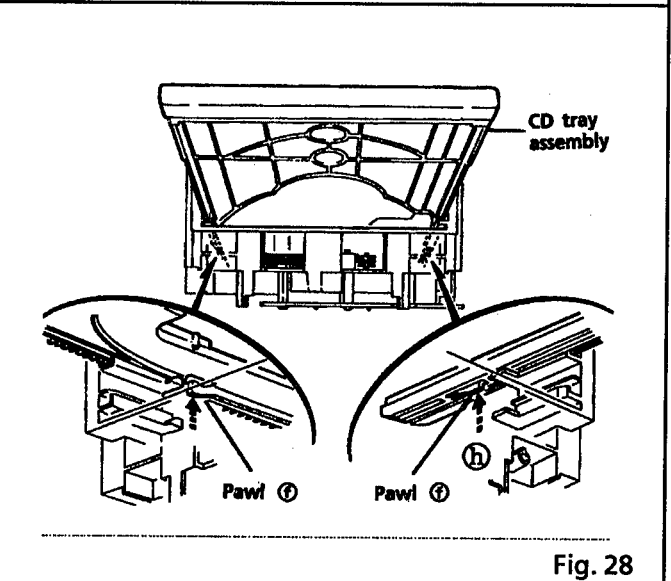

Fig. 28
14. Press 2 pawls(f, f') located rear side of the CD tray ass'y according to an arrow⑦ to remove the CD tray ass'y. (See Fig. 28.)